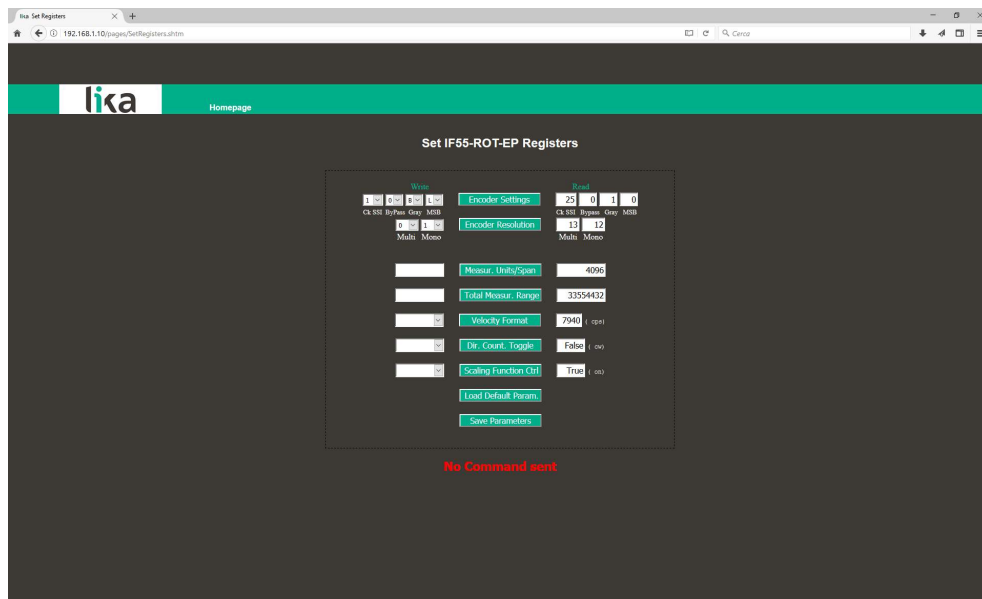

Figure 55 - Set IF55-ROT-EP Registers page (converter for rotary encoders)
The **64-01-10 Measuring Units per Span (R)** attribute is currently set to "4096" (see the **READ** box in the third line of the Figure 55 above). To change the set value enter a suitable value in the corresponding **WRITE** box of the same line and then press the **MEASUR. UNITS/SPAN** button to confirm.